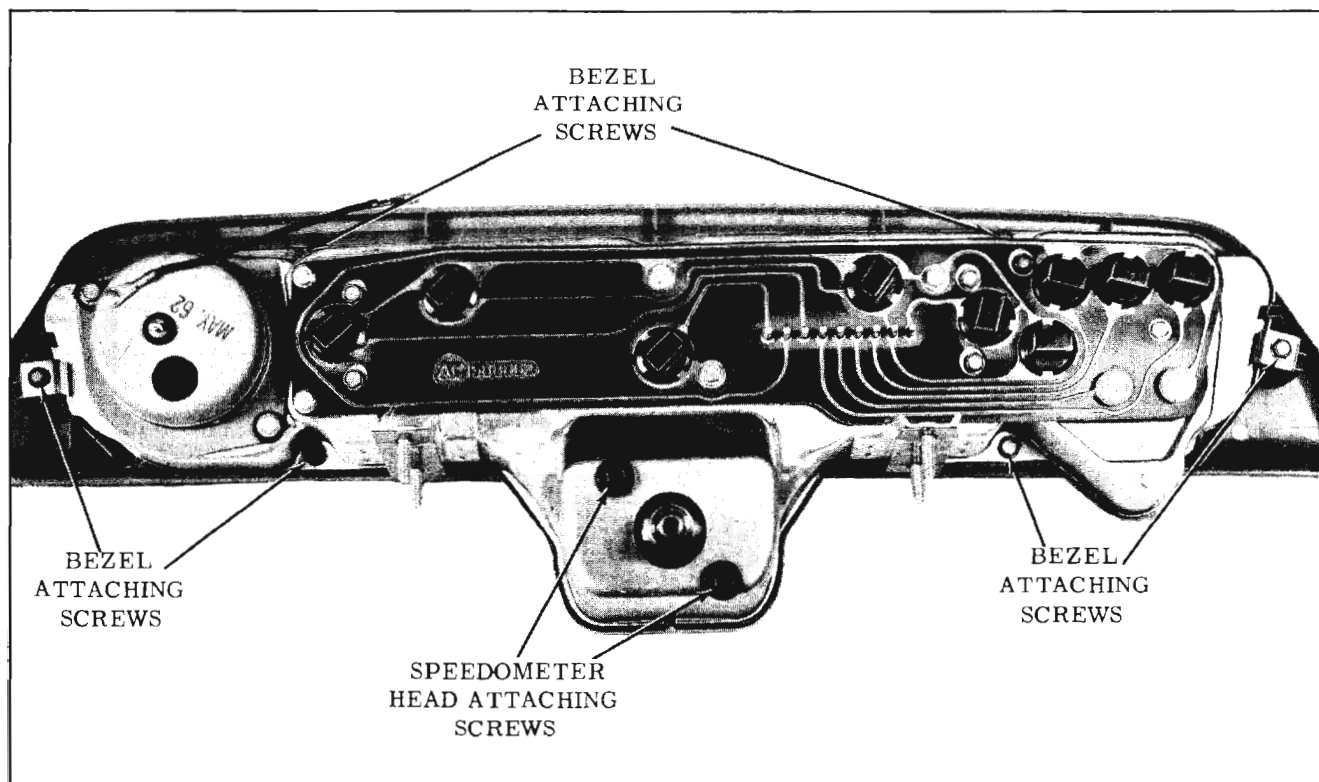

Fig. 13-103 Speedometer Head Removal
2. Remove the six instrument cluster bezel to case attaching screws and remove bezel and face from the cluster. (Fig. 13-103)
3. Remove the two speedometer head attaching screws from the case assembly and remove the speedometer head from the front of the case. (Fig. 13-103)
3. Remove the cluster bezel and face from cluster. (Fig. 13-103)